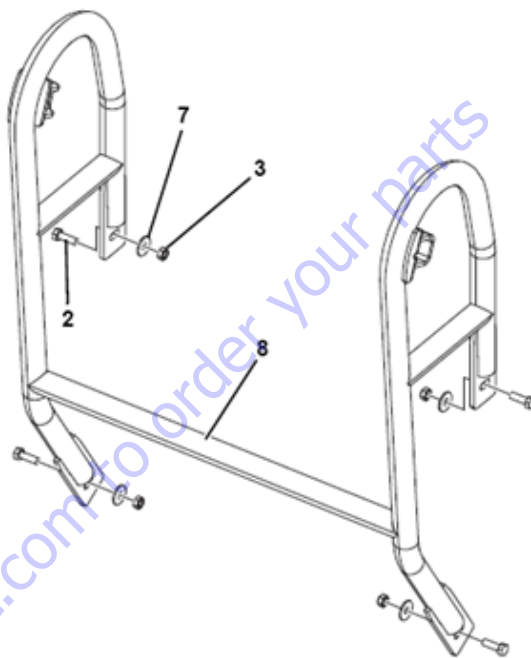

Figure 4-19.
1. Install the SkyGuard Support Bracket (8) onto the welded mounts on platform rails. Secure the support bracket using four Bolts (2), relevant Washers (7) and Nuts (3). See Figure 4-19.